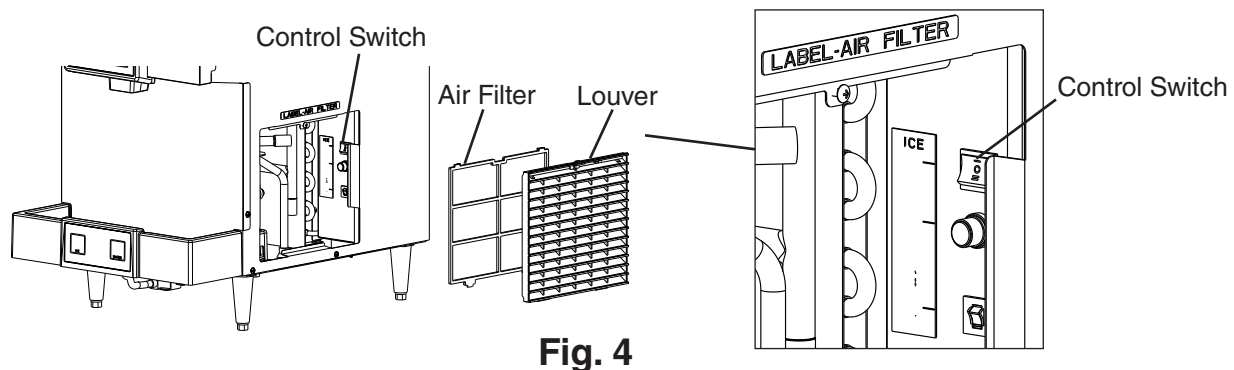

Fig. 4
- 3) Remove the louver and air filter. Move the control switch to the "ICE" position. Replace the louver and air filter in their correct positions. See Fig. 4.